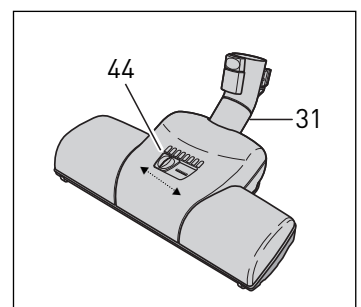

Figure 15
### Turbo Nozzle - Figure 15
The Turbo nozzle (31) has an air-driven rotating brush for gentle brushing of carpets. The Turbo nozzle can be adjusted for high and low pile carpet. To adjust the head for high pile carpet, push the slider button (44) to the right. For low pile carpet, push the slider button (44) to the left. **The slider in Figure 15 is set in the low pile position.** The rotating brush should be cleaned regularly. Remove the Turbo nozzle from the telescopic tube to clean. Remove fibers and hair from the brush manually.